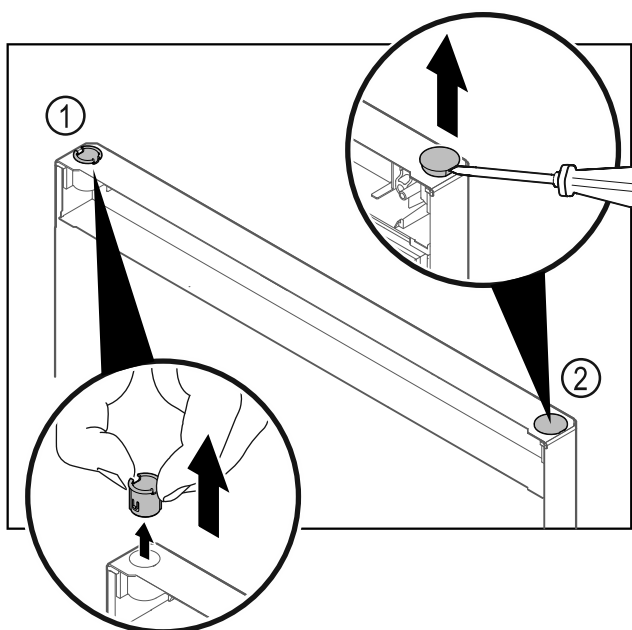

Fig. 16
- Pull out the hinge bushing Fig. 16 (1) with your fingers.
- Carefully lift the cover plug Fig. 16 (2) with a slotted screwdriver and pull it out.